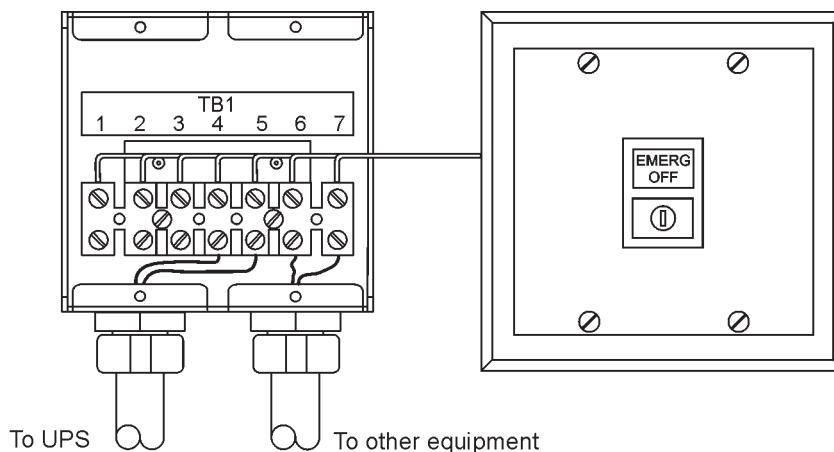

Figure 4-12. Remote EPO switch
A remote EPO switch can be used in an emergency to shut down the UPS and remove power to the critical load from a location away from where the UPS is installed. Figure 4-12 shows a remote EPO switch.
15. If required, install wiring from the remote EPO switch to the trip circuitry of the upstream protective devices. A normally-open (NO) contact is provided between terminals 6 and 7 of the remote EPO switch (where applicable), as shown in Figure 4-12. Remote EPO switch wiring must be in accordance with electrical code requirements.